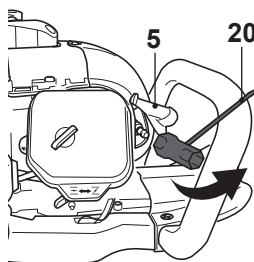

Fig. 19
- > Loosen the spark plug with the spark plug wrench (20) anticlockwise and carefully remove it (Fig. 19).